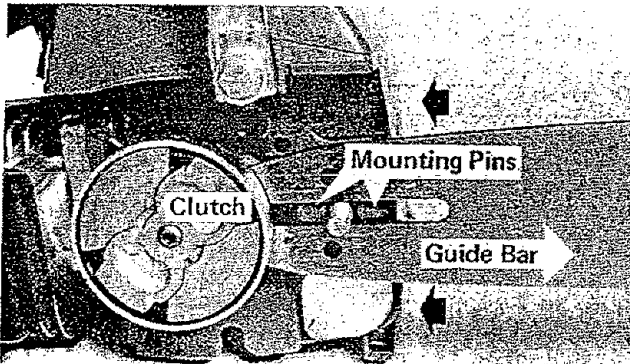

Figure 2
2. Place the guide bar slot over the mounting pins and slide it to the rear (Figure 2).